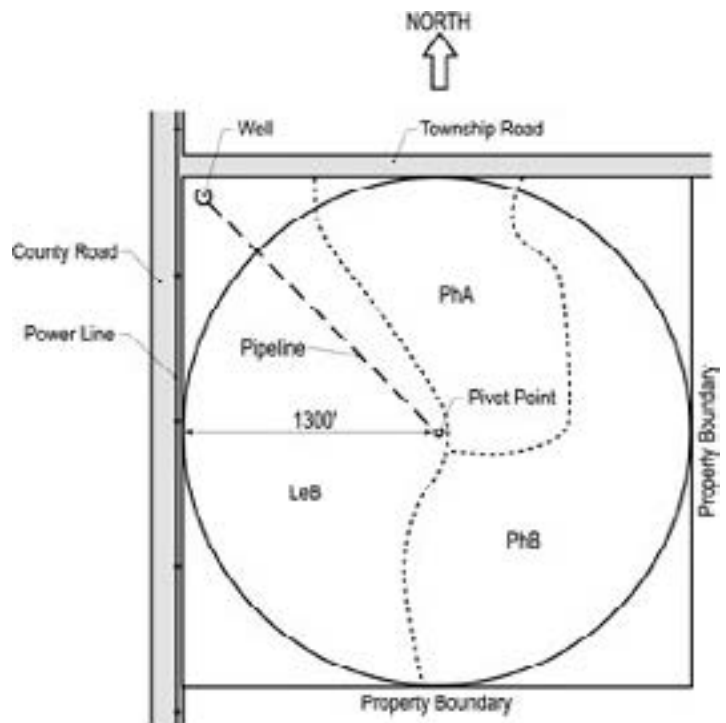

Figure 1. Example of the soil distribution under a center pivot.
An example of a field with a center pivot system and soil series superimposed is shown in **Figure 1**. Important soil parameters for the field are shown in **Table 2**.
If potatoes were grown under the center pivot in **Figure 1**, four or more soil-sampling locations would be needed. Because they are moisture sensitive, potatoes
**Table 2. Important soil parameters for irrigation management of the center pivot shown in Figure 1.**